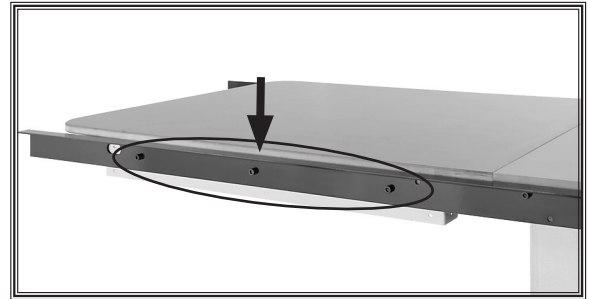

Figure 17. Rear rail/table fastener locations.
6. Fasten the 79" rear rail to the extension table with three M8-1.25 x 25 cap screws, lock washers, flat washers, and hex nuts, as shown in **Figure 17**. Finger tighten for now.
8. Repeat the leveling procedure and tighten the fasteners in **Figure 17** with a 6mm hex wrench and 13mm wrench.